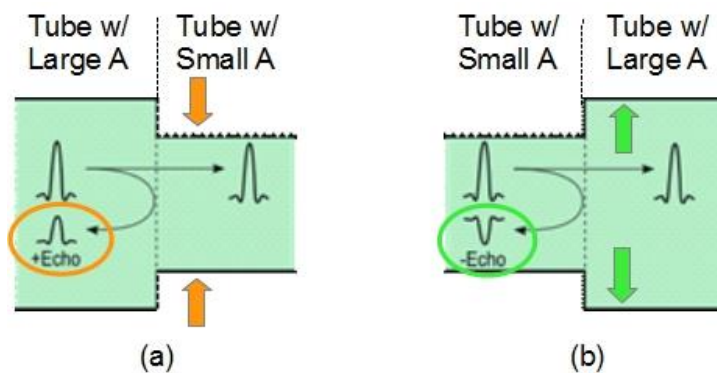

Figure C-2
A key property of an acoustic wave propagating in a tube is that a fraction of the wave's energy will undergo a reflection each time it encounters a change in cross-sectional area (A). If the changing A is from larger to smaller (as depicted in (a) in Figure C-2), a positive pressure wave is reflected (showing up as a positive deflection in the echo signal). Conversely, if the changing A is from smaller to larger (see (b) in Figure C-2 below), a negative pressure wave is reflected (showing up as a negative deflection in the echo signal). The delay time of each echo identifies the distance of the changing A that caused the echo. The amplitude of each echo identifies approximately how much the corresponding A changed.